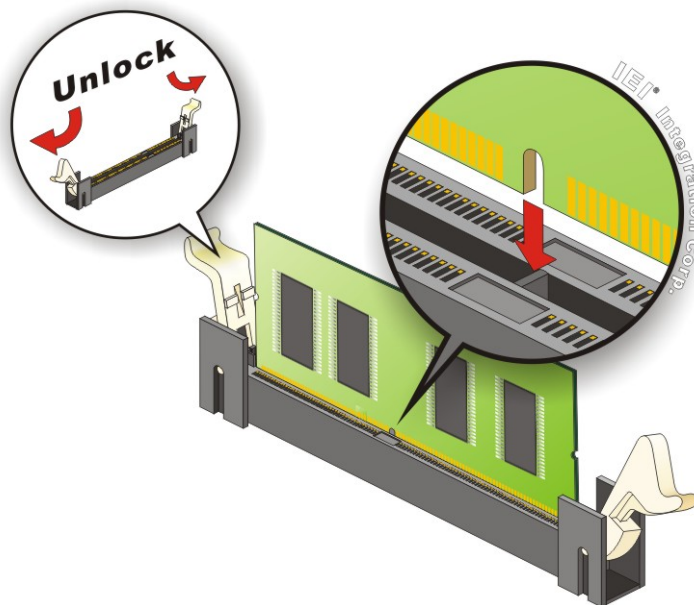

Figure 4-6: SO-DIMM Installation (DDR4)
To install a SO-DIMM, please follow the steps below and refer to Figure 4-6.
- Step 1: Open the SO-DIMM socket handles.** Open the two handles outwards as far as they can. See Figure 4-6.
- Step 2: Align the SO-DIMM with the socket.** Align the SO-DIMM so the notch on the memory lines up with the notch on the memory socket. See Figure 4-6.
- Step 3: Insert the SO-DIMM.** Once aligned, press down until the SO-DIMM is properly seated. Clip the two handles into place. See Figure 4-6.